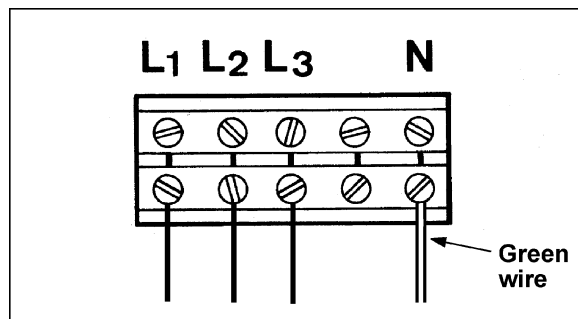

Figure 4
4. Connect the three phases to the terminals marked L1, L2, L3 (Figure 4).